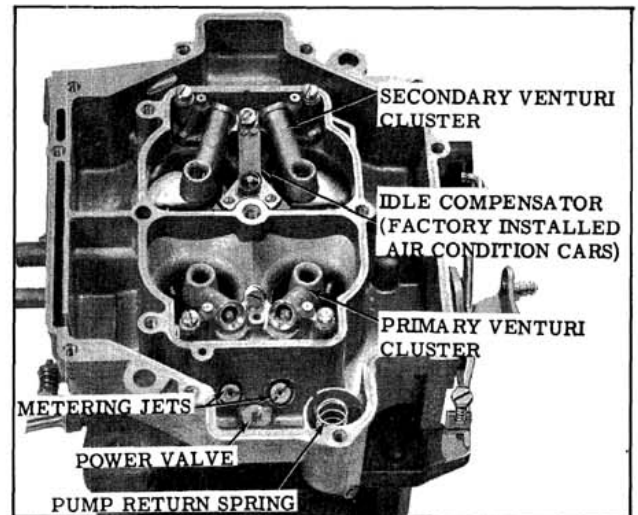

Fig. 4-55 Float Bowl Assembly
6. Install the power valve and gasket, and the two primary main metering jets. (Fig. 4-55)